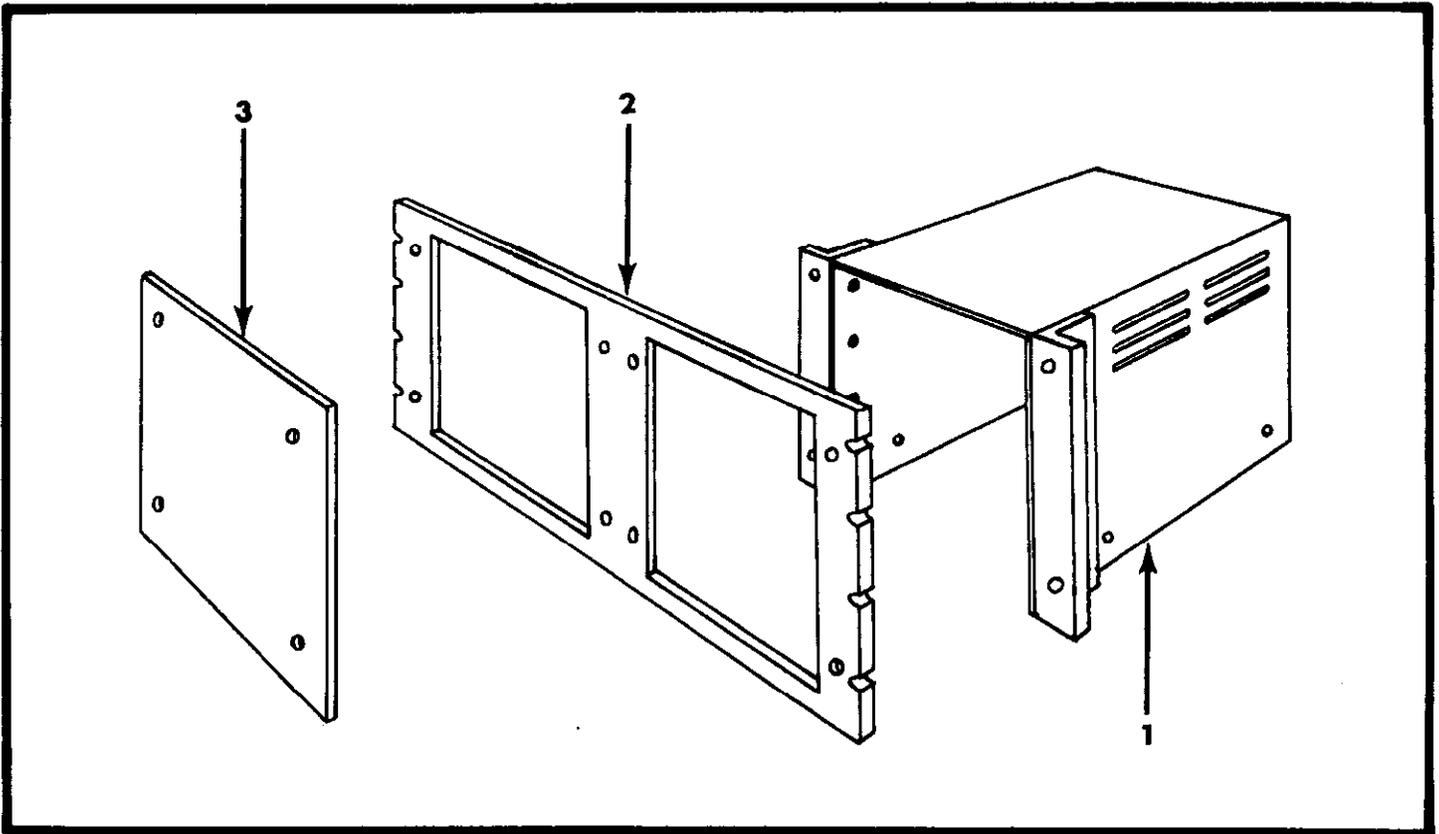

FIGURE 40. Exploded View of Model 4005 Rack Mounting Kit. Refer to Table 7 for parts list.
7-10. RACK MOUNTING (See Figure 40).
c. Insert the top cover assembly (1) in place and fasten to the chassis with the four screws previously removed. Attach the mounting panel (2) to the rack with four #10 screws and keps. Fasten the Model 601 to the mounting panel with four #10 screws. Fasten the filler panel (3) to the opening in the mounting panel with four #10 screws and keps.
d. If two Model 601 Electrometers are to be rack mounted side-by-side, another top cover assembly (Keithley Part 19525B) is used instead of item 1 in Figure 40. The filler panel (3) is not used. This Kit will also hold any two Keithley models whose bench dimensions are 10-1/2 inches high x 6-5/8 inches wide x 10 inches deep.